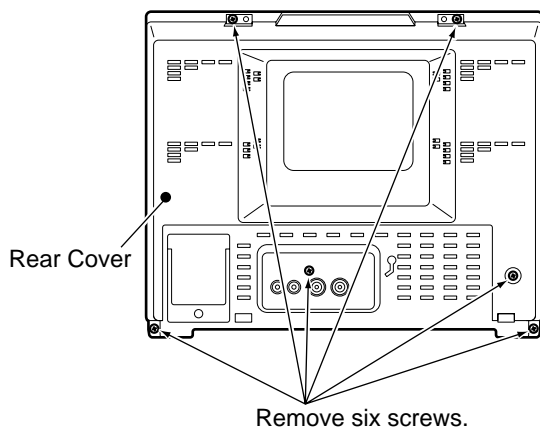

Fig. 2-2
- Referring to Fig. 2-2, remove six screws that secure the Rear Cover and remove the Rear Cover.